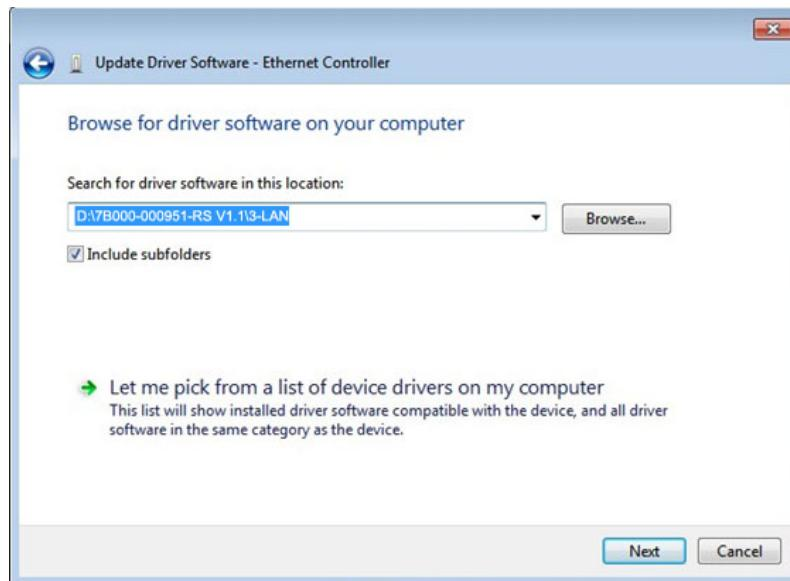

Figure 6-17: Locate Driver Files
Step 9: Click **Browse** to select "X:\3-LAN" directory in the **Locate File** window, where "X:\\" is the system CD drive. (**Figure 6-17**).